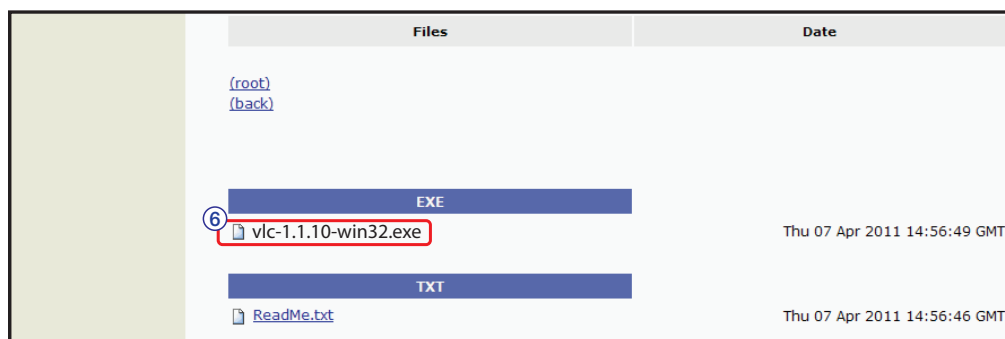

Figure 53. File Management Page – VLC media player Install File
- From the Windows directory, click on the VLC media player file to start the installation process (see figure 53).